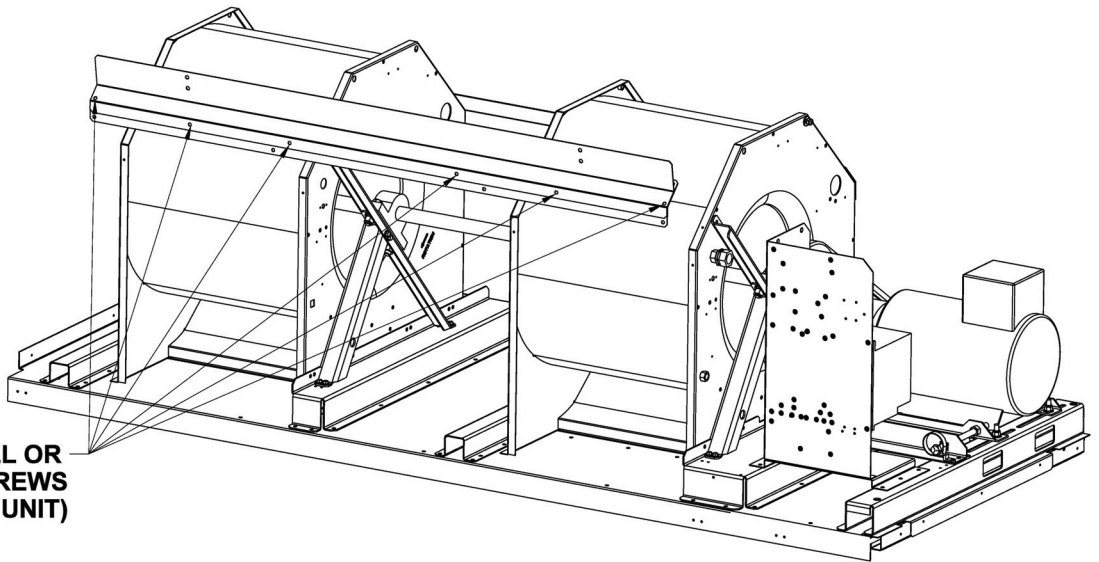

Fig. 13 — Vertical Supply Unit
3. Locate UVC Support Bracket and join it with self-tapped screws provided to the Blower Support as shown in Fig. 13 and 14. Alternatively drill the holes using the UVC Support as a template. Do not maintain attached the supports.